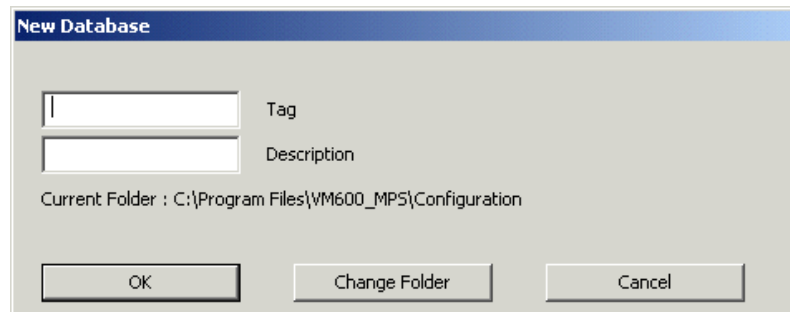

Figure 5-2: New Database dialog box
- 2- Select **New Database** from the **Database** menu at the top of the main window of the VM600 MPS1 Configuration Editor. The dialog box shown in Figure 5-2 appears.